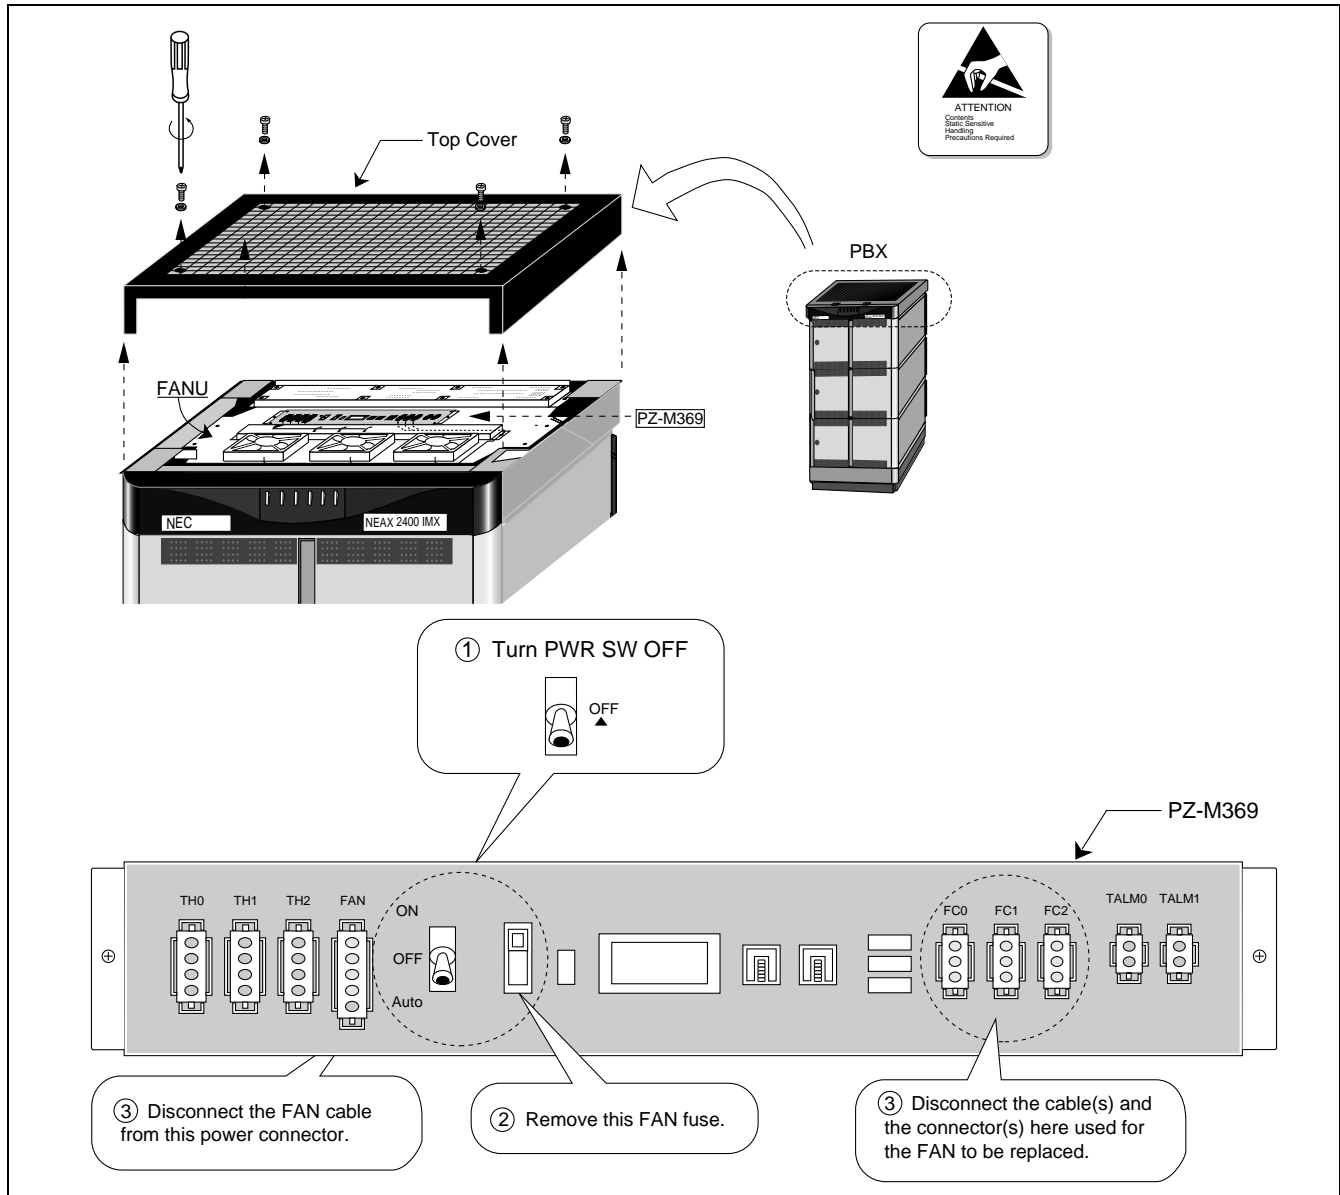

Figure 4-20 Preparation for FANU Replacement (Fans on TOPU)
- STEP 2 Turn OFF the PWR SW on the PZ-M369. (Refer to Figure 4-20.)